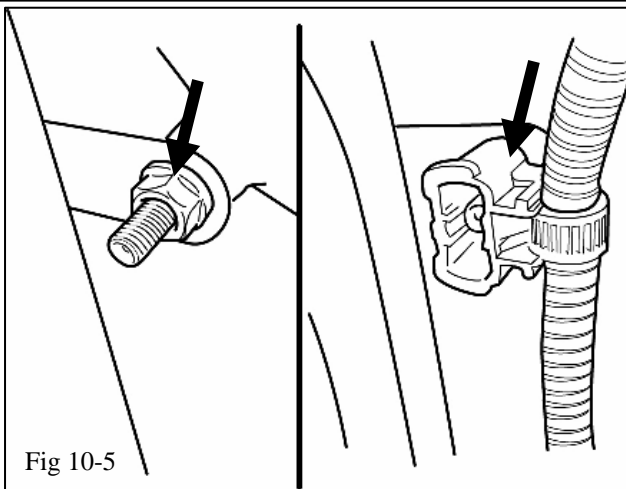

Fig 10-5
- (f) Tighten the M6 nut and reattach the wire harness clip (Fig 10-5).